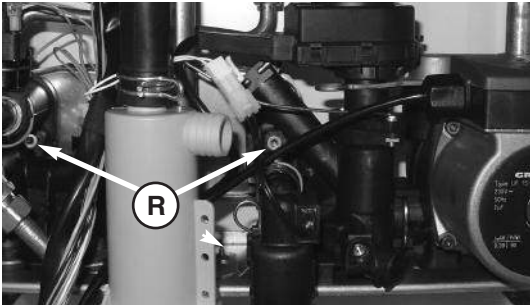

Fig. 89
4. Unscrew the two fixing screws **R** and pull the heat exchanger toward you (see Figs. 89 & 90);